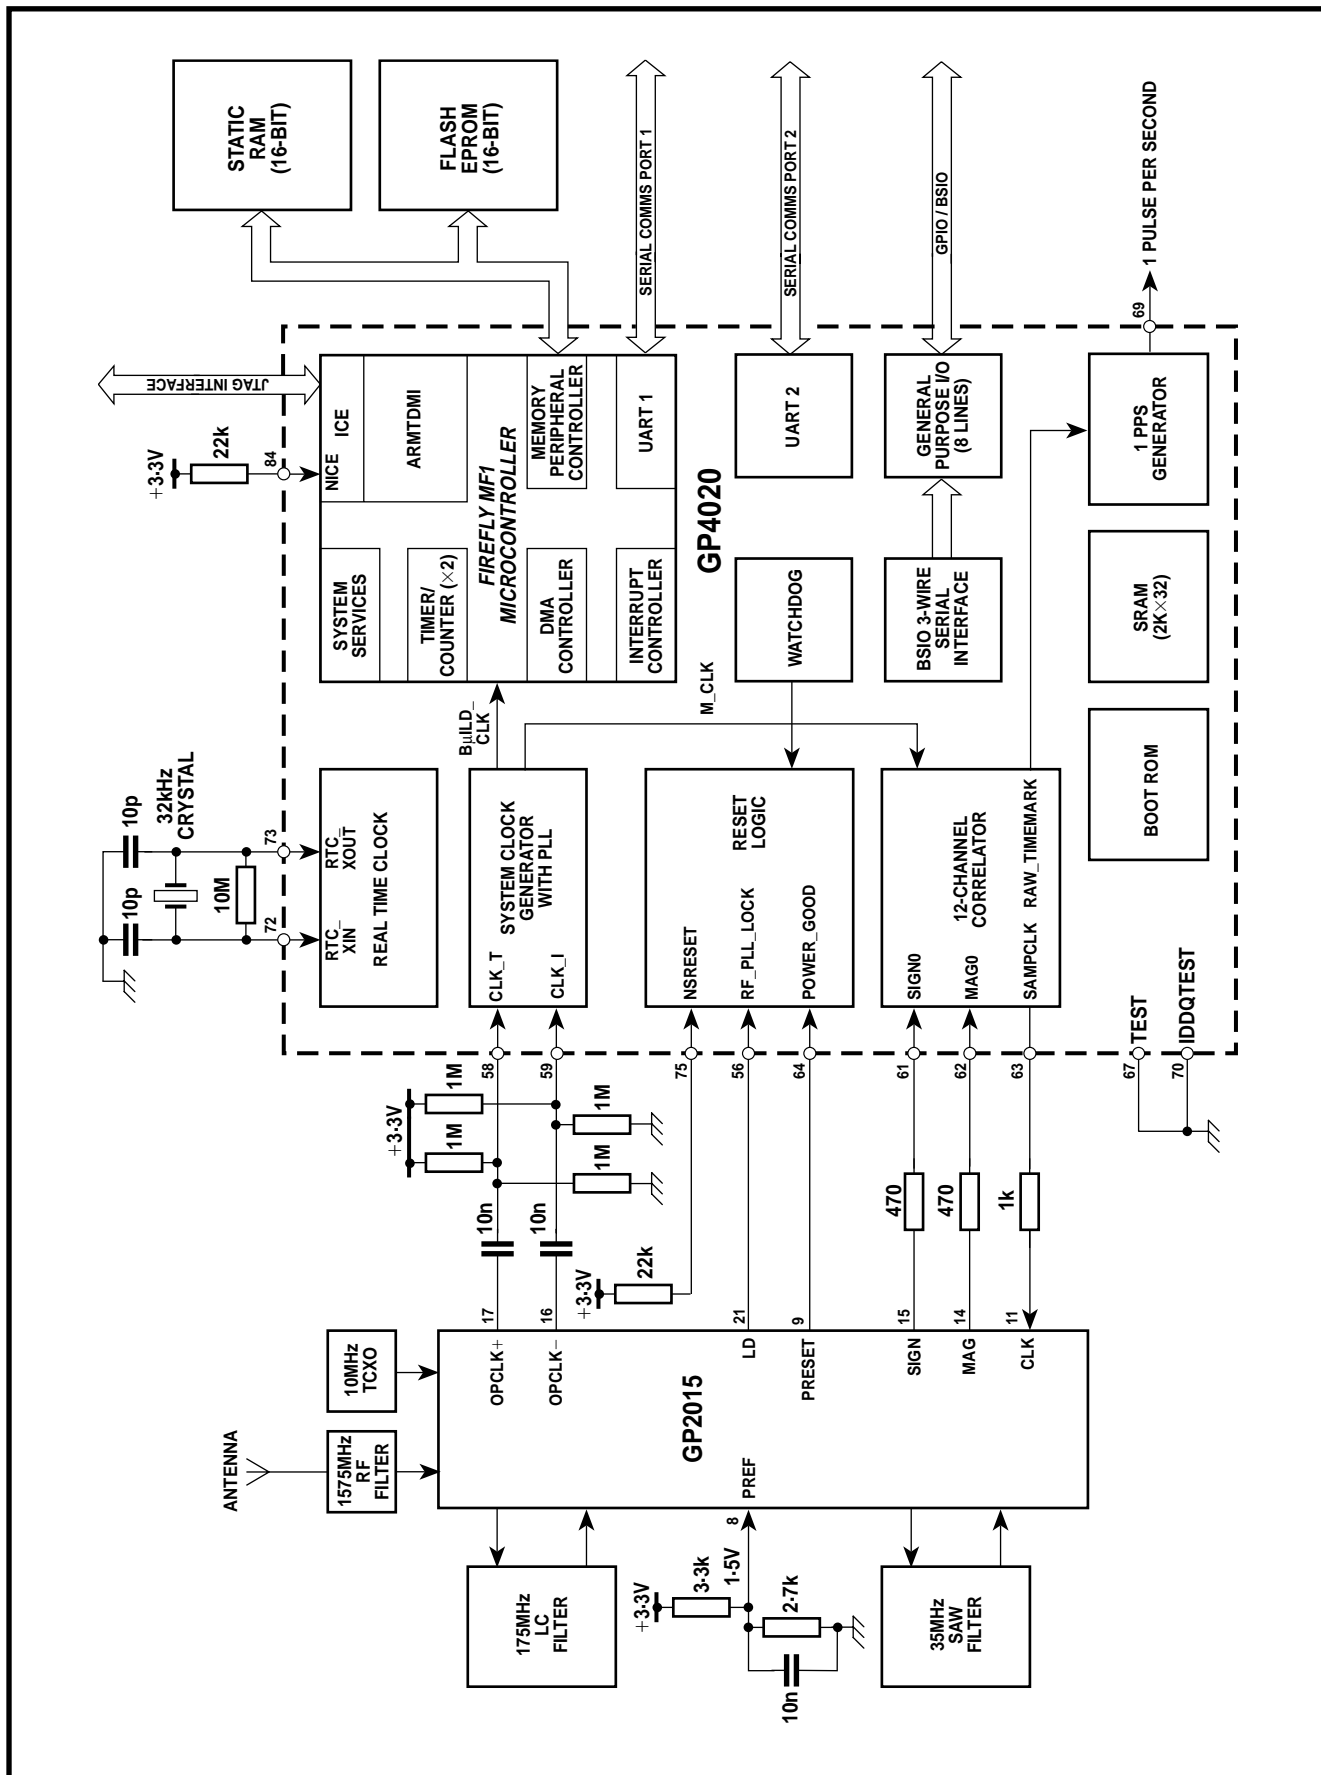

Figure 3 - Block diagram of a typical GP4020-based GPS receiver
- Both CLK\_T (pin 58) and CLK\_I (pin 59) should not have an external DC bias of GREATER than +1.7V. Direct connection from a GP2010/GP2015 RF front end is NOT possible, without bias-shift circuit (Figure 3).
Figure 3 shows a typical GPS receiver employing a GP2015 RF front end and a GP4020 correlator.